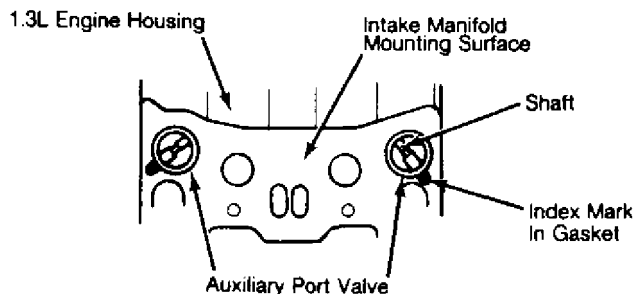

Fig. 29: Installing Auxiliary Port Valves on 1.3L Engine
2) Install auxiliary ports in side of engine housing with larger sides of auxiliary port valve shafts facing index mark on gasket. See Fig. 29. Install "O" rings, gasket and intake manifold on engine.